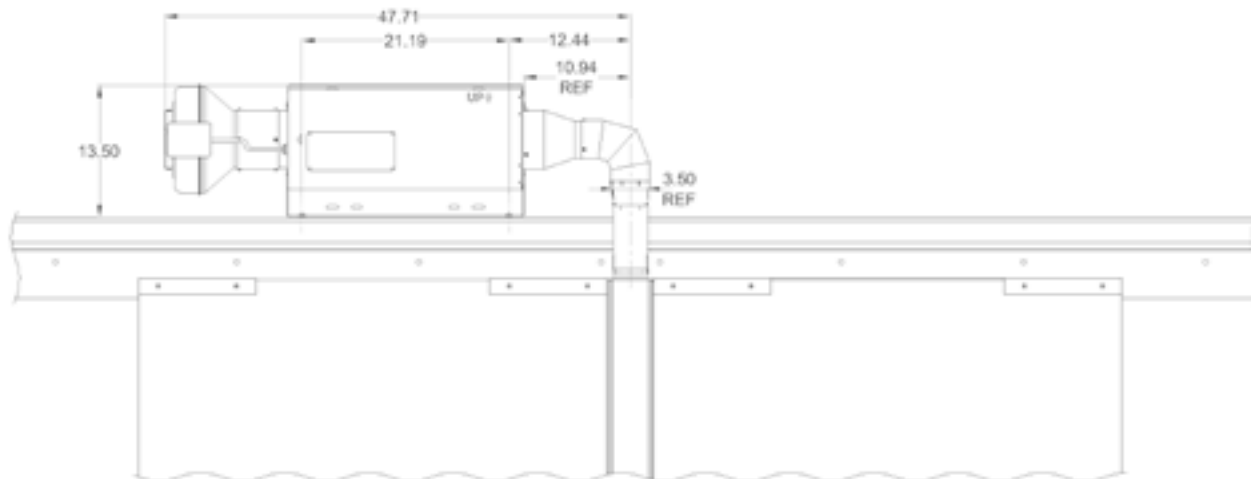

Figure 1: Heater Blower Install Dimensions - Front View
- 1 Referring to Figures 1 & 2, review mounting clearance needed for mechanical installation per the minimum dimensions given. Measure to verify heater mounting clearance above door header. (Figures 1 & 2)